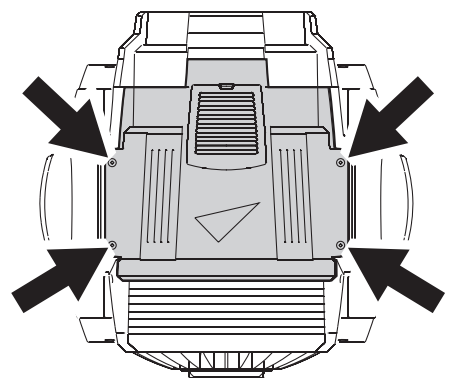

Figure 11: Top cover retaining screws
2. Turn the 4 retaining screws in the top cover (see Figure 11) one half-turn counter-clockwise to release the cover. Covers are a tight fit on the MAC TW1, and the top cover may require some pressure to remove.